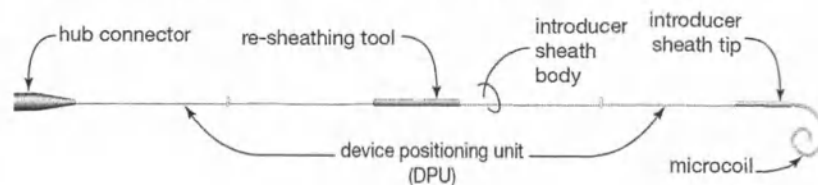

Fig. 1: Microcoil System
- As shown in Figure 1, the Microcoil System consists of an embolic microcoil attached to a device positioning unit (DPU) wire. It is covered by an introducer sheath system. The microcoil's shape is complex. The DPU wire is a variable stiffness pushing system and has a radiopaque marker band located three (3) cm from its distal end. The introducer sheath system has three main components: an introducer tip, a translucent introducer body, and a re-sheathing tool.